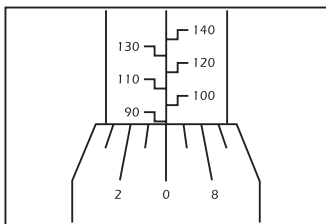

FIG.6
1.1 SETTING EXAMPLE 1/2" SQUARE DRIVE - FIGS. 6 - 9
2. 90Nm. whole number (Fig.6).